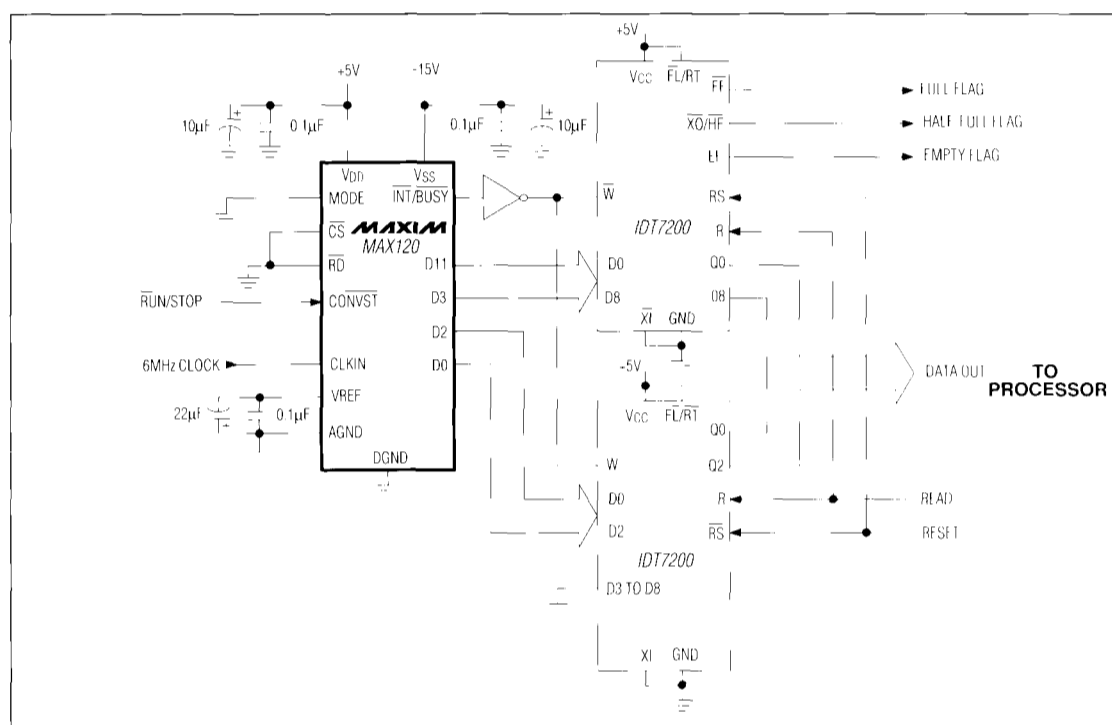

Figure 13. Using MAX120 with FIFO Memory
Using FIFO memory to buffer blocks of data from the MAX120 reduces  $\mu$ P interrupt overhead time by enabling the  $\mu$ P to process data while the MAX120, unassisted, writes conversion results to the FIFO. To retrieve a block of data, the  $\mu$ P reads from the FIFO via a read-interrupt cycle. Read and write operations for the FIFO are completely asynchronous. Figure 13 shows the MAX120 operating in continuous-conversion mode (mode 5), writing data directly into the two IDT7200 256 x 9 FIFO buffers at the rate of 428kps. The  $\mu$ P is interrupted to read the accumulated data by the FIFO's half-full (HF) flag approximately three times per millisecond. For operation at 500kps, use an 8MHz clock, and pulse CONVST at 500kHz. The full flag (FF) indicates that the FIFO is full. If this flag is ignored, data may be lost. If necessary, conversions can be inhibited by pulling CS, RD, or CONVST high. The FIFO's read cycle times are as fast as 15ns, satisfying most system speed requirements. The RESET input resets all data in the FIFO to zero.